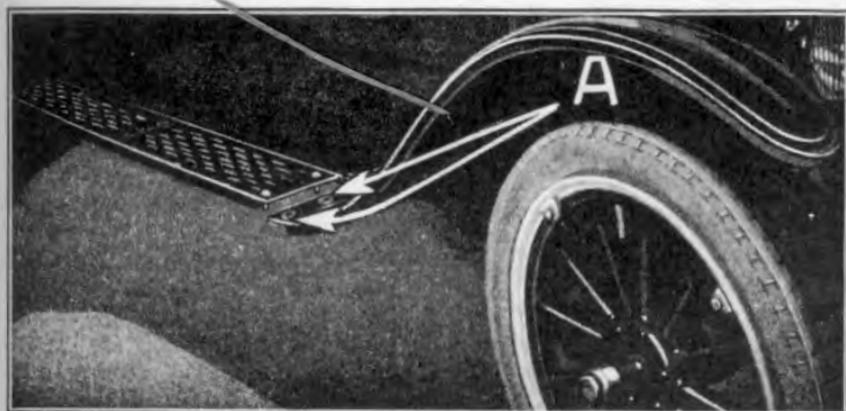

Fig. 110
- (d) Place two spacer washers between fender and running board (See "A" Fig. 110). A slight change was made in the fenders which eliminates the necessity of installing spacer washers between fenders and running boards on cars manufactured subsequent to August 1924.